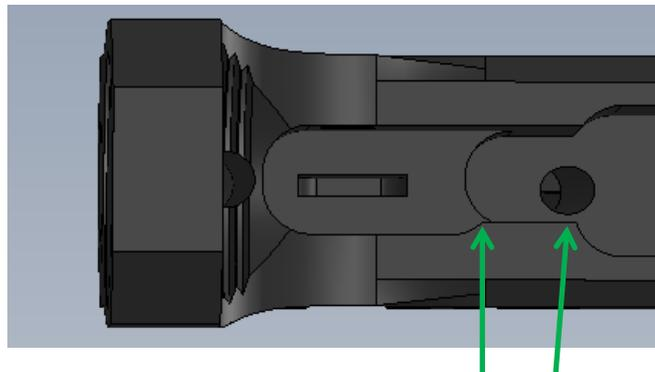

Figure 3, NOTE THE SLIGHT INDENTATION, DON'T DRILL THIS OFF
11. **Figure 3:** Before we get started on the lower or deeper section of the fire control pocket, on all AR15 lowers, there's one important feature that you must pay attention to. There's a slight but **IMPORTANT** indentation that you can't drill through because the safety selector switch hole is drilled through that area. Don't drill this out!! You'll see later once the trigger mechanism goes in, the backside of the mechanism is just barely nudging this area since it's offset compared to the trigger hole. We'll use a Dremel tool during the trigger fitting stage to shave off a little bit of the material if need be to make the trigger move freely.